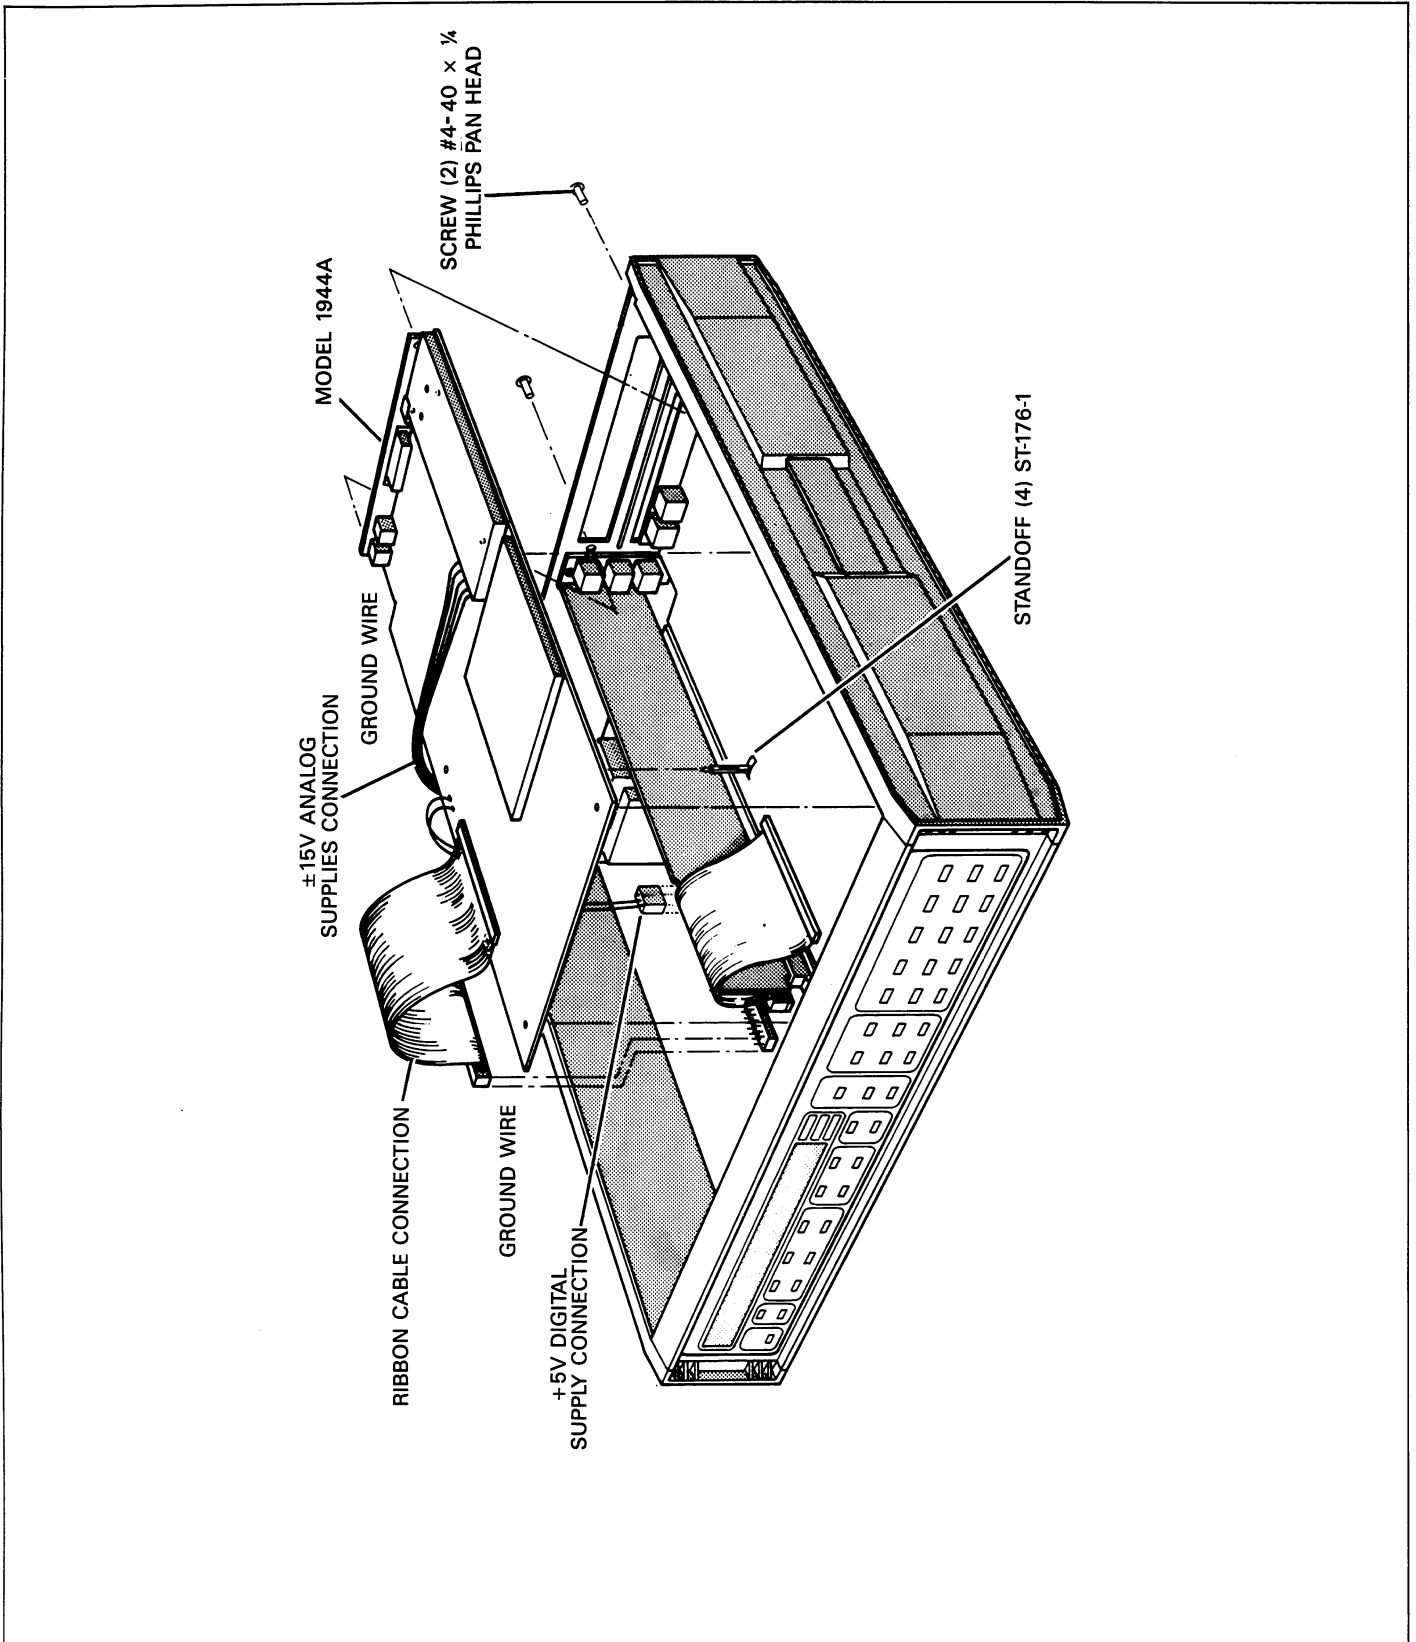

Figure 7-2. Model 1944A A/D Module Installation
Refer to Figure 7-2 and install the Model 1944A as follows.
3. Install the four plastic standoffs supplied with the module in the holes at the edges of the channel 1 A/D module, as shown in Figure 7-2.
5. Plug the +15V and -15V supply connector to J1021 or J1022 (which ever one is presently unused) on the mother board, as shown in Figure 7-2. Line up the plug in the connector with the missing pin on the mother board. Route the cable through the top hole in the I/O board.